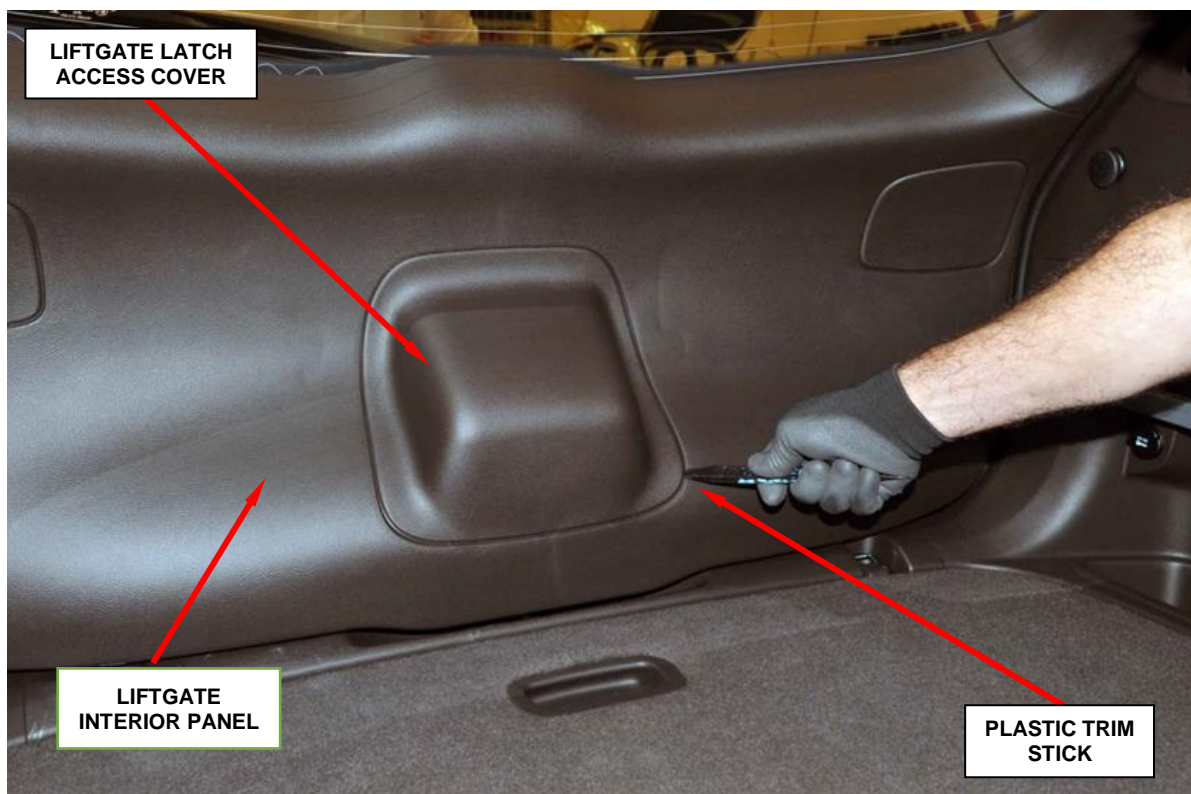

Figure 1 – Liftgate Access Cover
4. Using a plastic trim stick, remove and save the liftgate latch access cover (Figure 1).
6. Install the original liftgate latch access cover (Figure 1).